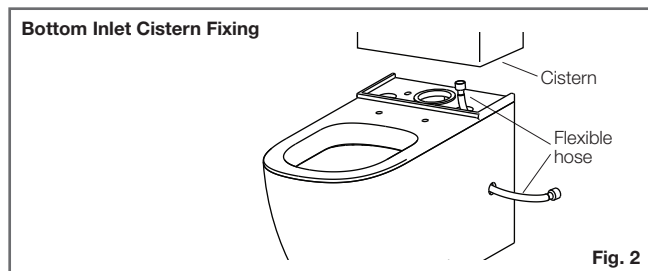

Fig. 2
- 2- Connect flexible hose to inlet valve and thread other end of flexible hose through side hole on pan, as detailed in Fig. 2. Position cistern onto pan and align the cistern fixing holes with the threaded fixing holes located in the cistern platform. Fit the seals onto the winged fixing bolts.